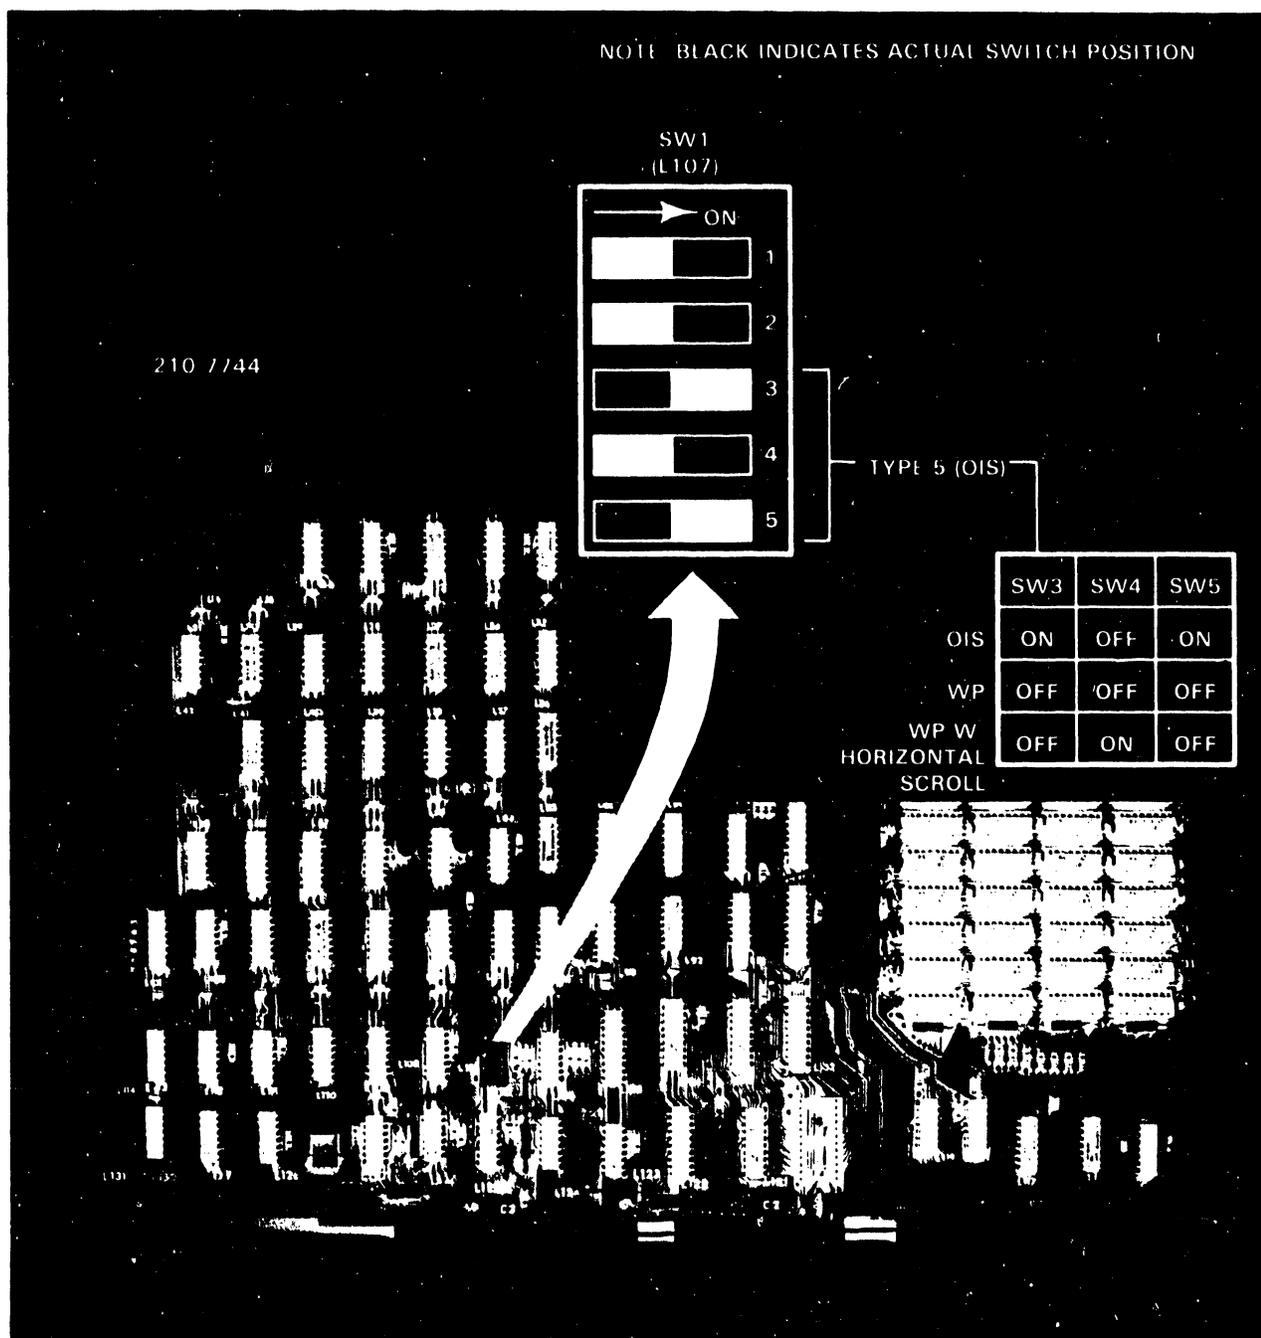

Figure 4-5. 210-7744 Switch Settings
- o The Data Link/Memory PCA (210-7544/7744) has one DIP labeled SW1 (L107). The status of this switch is read by the system master unit whenever it issues an IN '07' command. The switch settings determine the type of system (WP or OIS) that the workstation is attached to. Set the switches for the appropriate application as shown in figure 4-5.
- o Turn both the master and workstation POWER switches ON. The workstation CRT raster should appear after about thirty seconds, along with the workstation main menu. Should the menu not appear, adjust the BRIGHTNESS and CONTRAST controls on the front panel of the workstation (figure 4-5).